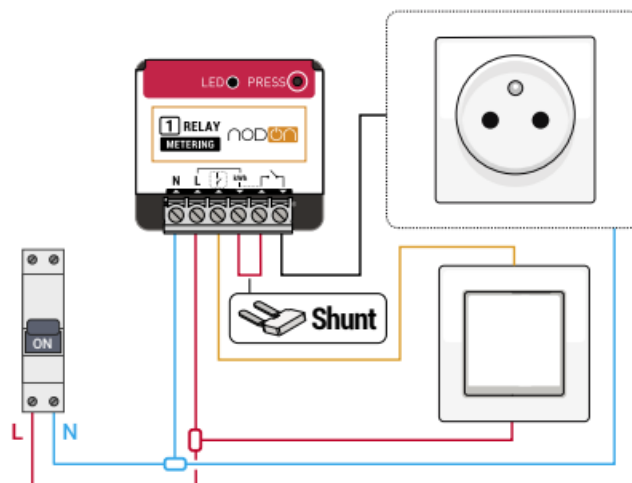

Figure 1
3. Wire the Zigbee Multifunction Relay Switch with metering, following the diagram figure 1.